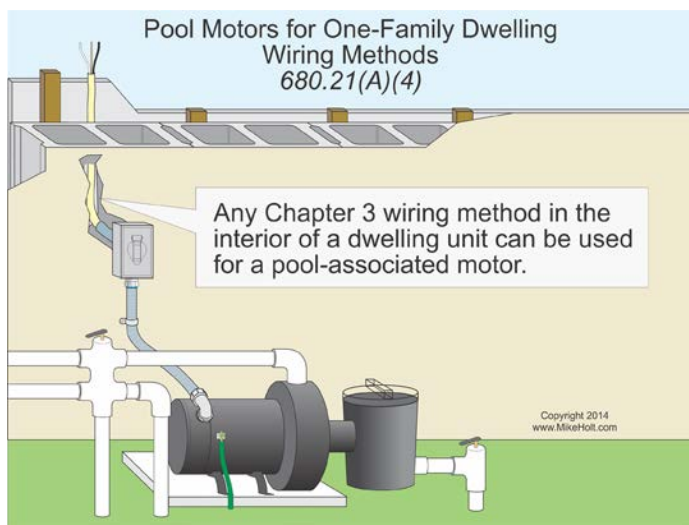

Figure 680-19
(3) Flexible Connections. Liquidtight flexible metal or liquidtight flexible nonmetallic conduit is permitted, however it must contain an insulated copper equipment grounding conductor as required by 680.21(A)(1).
(4) One-Family Dwelling. Any Chapter 3 wiring method can be used on the interior of a one-family dwelling unit or accessory building associated with the dwelling unit. Raceways must contain an insulated copper equipment grounding conductor as required by 680.21(A)(1), and cable assemblies can utilize an uninsulated copper equipment grounding conductor but it must be enclosed by the outer sheath of the cable assembly. Figure 680-19